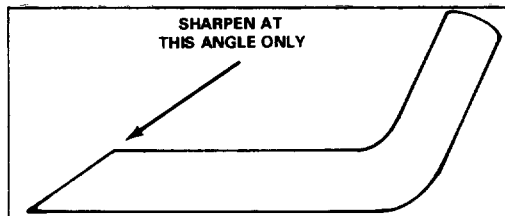

Figure 22
6. **SHARPENING BLADE**–Using a file, sharpen top side of blade and maintain original cutting angle (Fig. 22). The blade will remain balanced if same amount of material is removed from cutting edges.